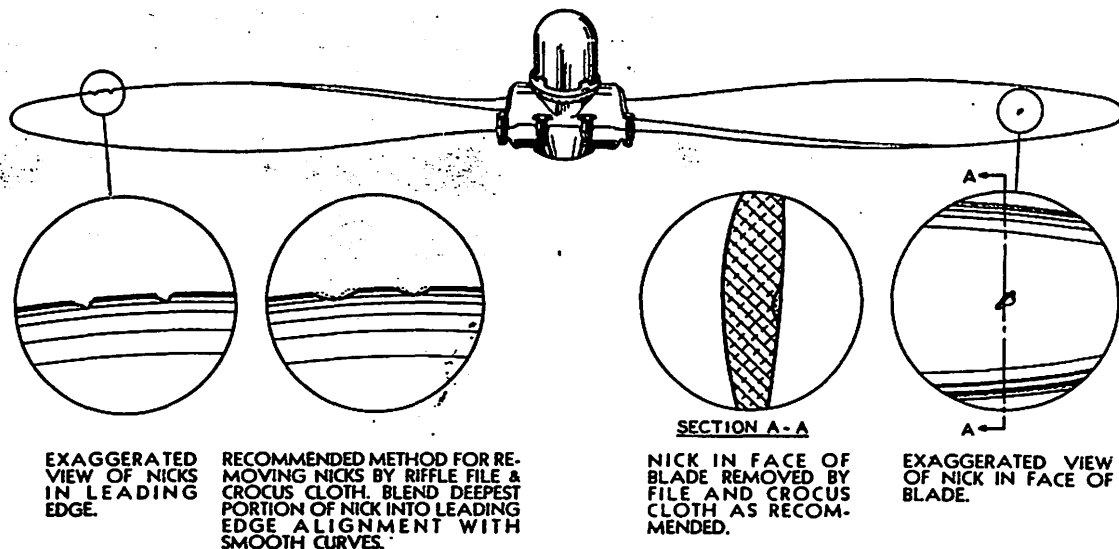

Figure 5-56. Typical Nicks and Methods of Removal
1. Aluminum alloy blades which are bent or otherwise damaged beyond the minor repair limits outlined in the following paragraphs shall be forwarded to an approved overhaul base for repair. The types of damage outlined below can be repaired locally by any activity having the facilities and personnel familiar with the work. Typical nicks and methods of removal are shown in figure 5-56.